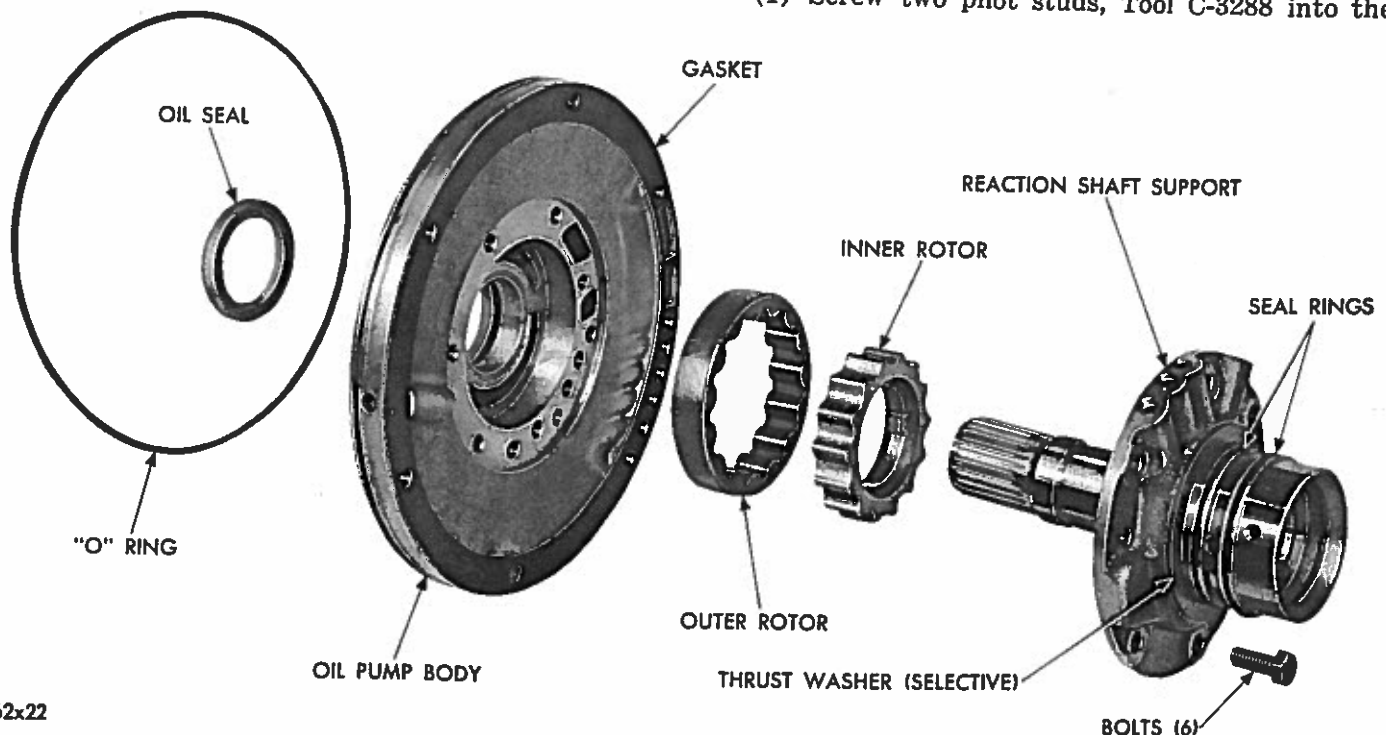

Fig. 58—Front Oil Pump and Reaction Shaft Support (Exploded View)
Figure 58 shows the front oil pump and reaction shaft support disassembled.
Inspect interlocking seal rings (Fig. 58) on reaction shaft support for wear or broken locks, make sure they turn freely in the grooves. Do not remove rings unless conditions warrant. Inspect bushing and bore of the reaction shaft for wear. Inspect machined surfaces on oil pump body and reaction shaft support for nicks and burrs. Inspect oil pump rotors for scoring or pitting. With rotors cleaned and installed in pump body, place a straightedge across face of rotors and pump body. Using a feeler gauge, check clearance between straight edge and face of rotors. Clearance limits are from .0015 to .003 inch.
(1) Assemble pump rotors in the pump housing (Fig. 58).
(2) Install the reaction shaft support. Install retaining bolts and tighten to 150 inch-pounds torque.
(3) Place new oil seal in opening of front oil pump housing (lip of seal facing inward) using Tool C-3860 drive seal into housing until tool bottoms.